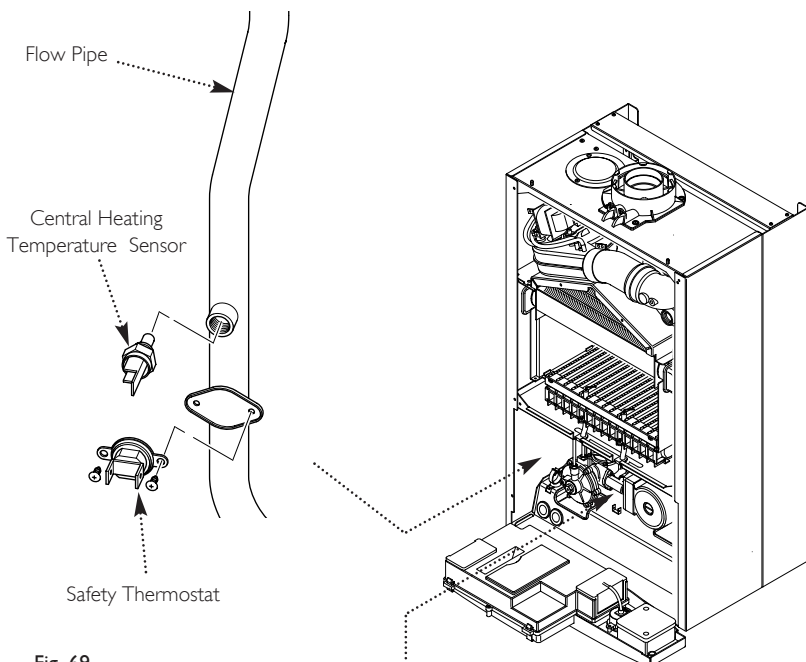

Fig. 69
14.9 Central Heating Temperature Sensor (Fig. 69)
14.10 Safety Thermostat (Fig. 69)